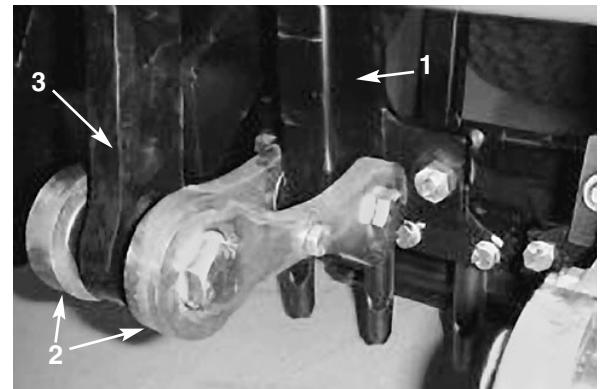

Figure 32
6. Remove the fasteners securing the bottom of tine arm or rotalink arm to bottom links (Fig. 32). Align the tine arm with slot in frame and slide off crank pin.